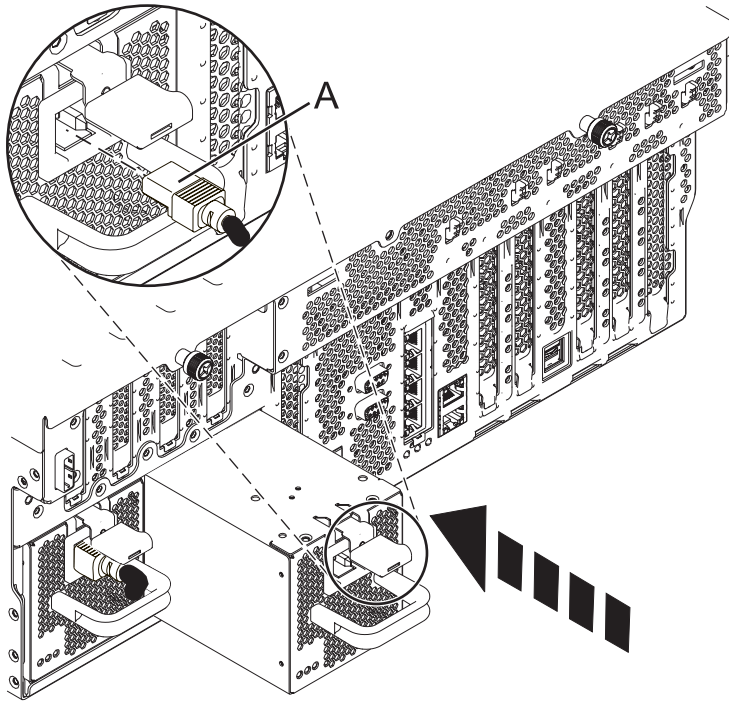

Figure 6. Replacing a power supply
4. Align the power supply with the bay and slide the new power supply into the system until the latch locks in place, as shown in Figure 6 on page 8.